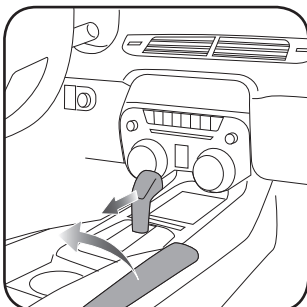

Fig. 1.1
1. Engage the parking brake. Put the shifter all the way back. (Fig. 1.1)